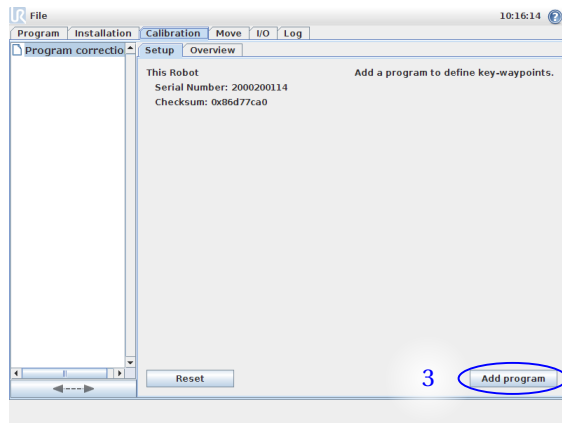

Figure 2.4: Select "Add program" to import a program.
- (3) The chosen program can now be loaded by press "Add program", see figure 2.4.